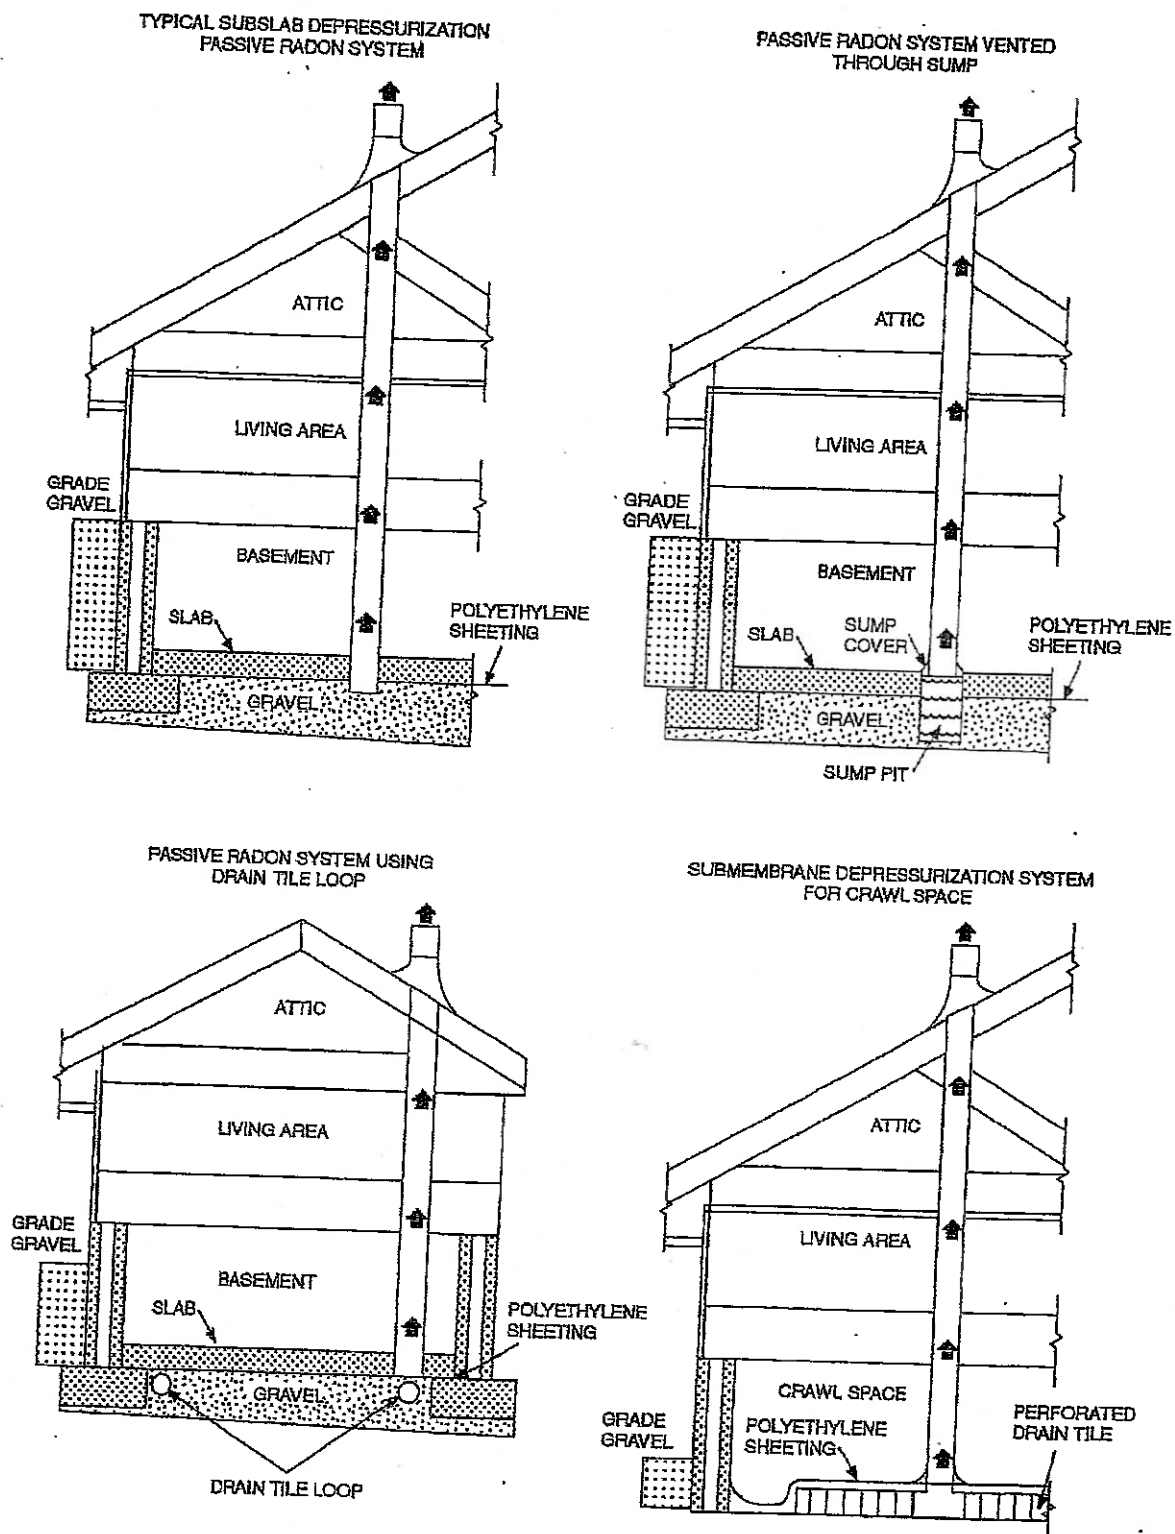

FIGURE AF102
**AF101.1 General.** This appendix contains requirements for new construction in *jurisdictions* where radon-resistant construction is required. These requirements are intended to provide a passive means of resisting radon gas entry and prepare the *dwelling* for post-construction radon mitigation, if necessary (see Figure AF102). Active construction techniques, rather than passive techniques, shall be permitted to be used where approved.